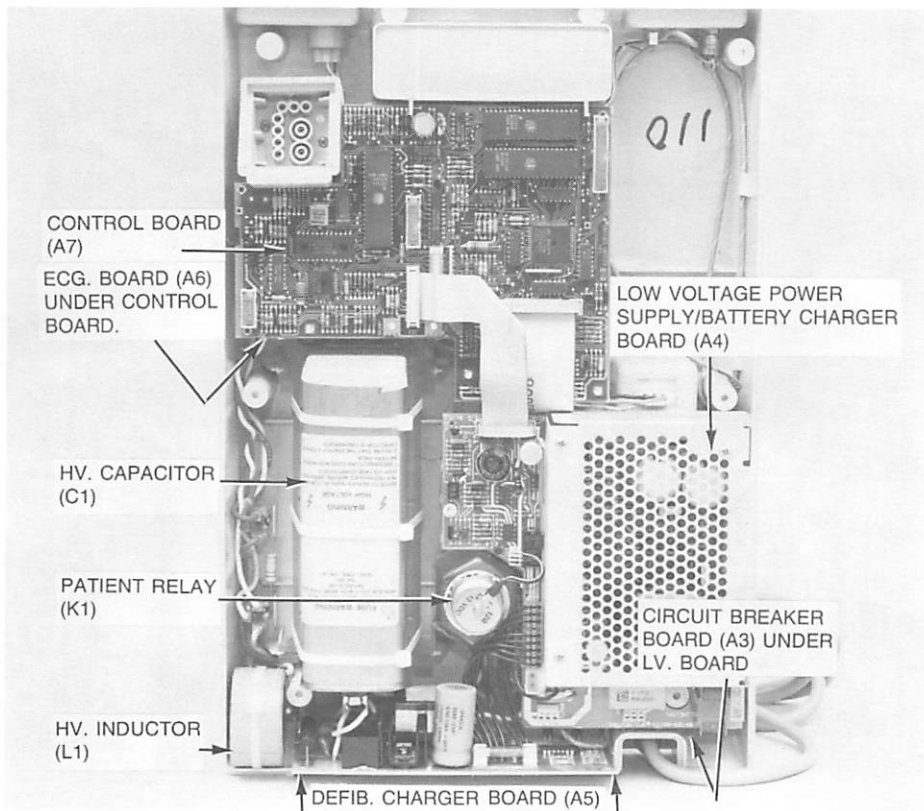

Figure 4-6.
2. The control board is located in front of the H.V. capacitor C1. It is mounted in notches in the case behind the handle and on three plastic spacers at the rear of the board. See Figure 4-6.